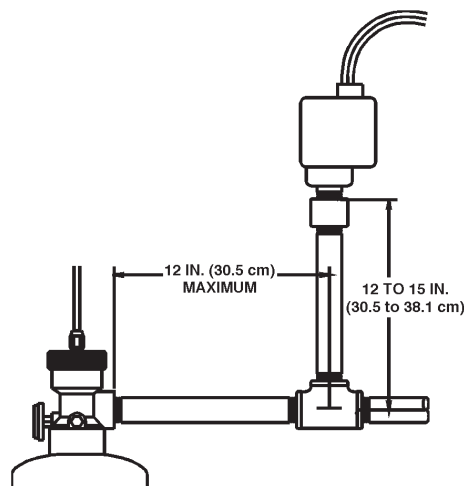

Figure 2-23. Pressure Switch Piping
- ▶ the discharge piping as shown in **Figure 2-23**. The switch is UL Listed (CCN: NOWT) and must be installed in accordance with the instructions contained with the switch and this manual. The switch provides one set of NO/NC dry contacts. It is intended for use with electric power shut-off devices (dealer supplied), electric gas valves, alarms, bells, lights, contactors, and other electrical devices designed to shut off or turn on upon system actuation. It is rated for 15 amps @ 125/250 VAC.